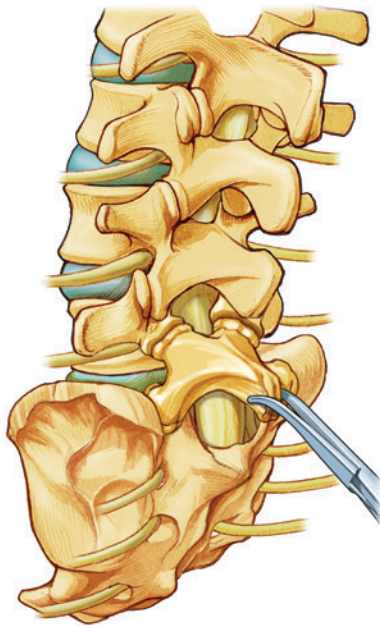

Fig. 5
- Perform a standard Gill Procedure (Fig. 5). During the decompression, perform a complete resection of the pars interarticularis defects to fully decompress the exiting nerve roots. Also, perform a complete resection of the residual superior articular processes in preparation for the TLIF or PLIF.